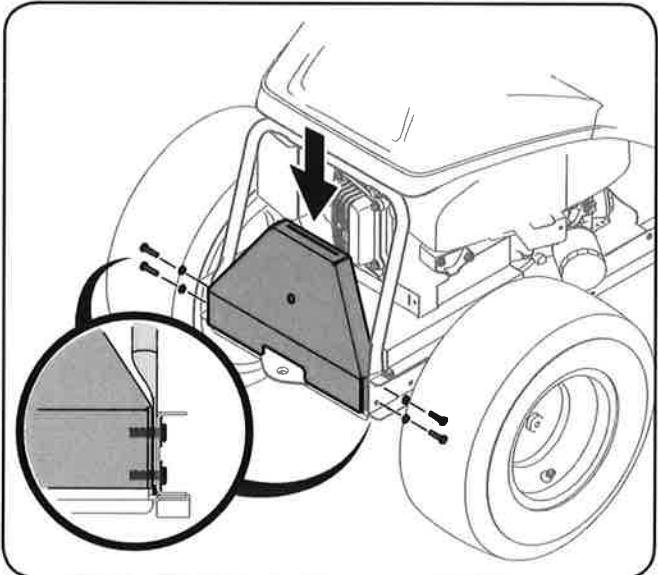

Figure 2
2. Install the bagger mounting bracket on the tractor, using four 710-1260A hex bolts from hardware pack 683-05147. Feed each hex bolt through the tractor frame, the rear hood mounting tube, and thread into the weld-nut on the bagger mounting bracket, as shown in Figure 2.